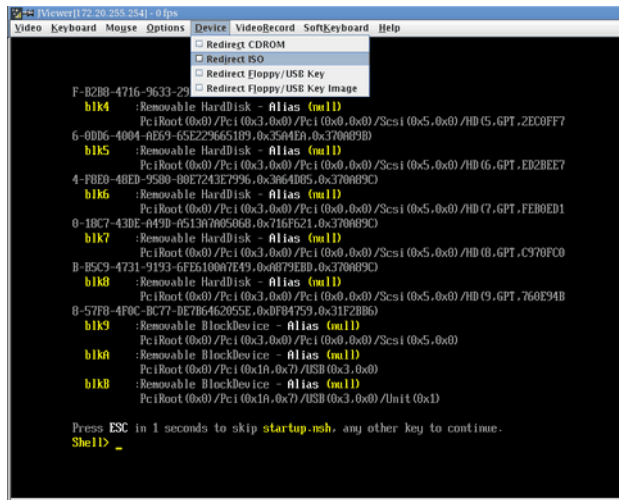
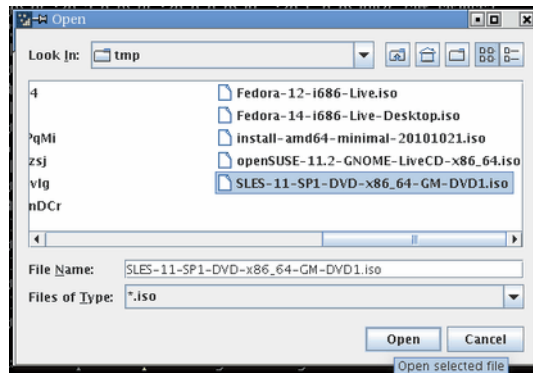
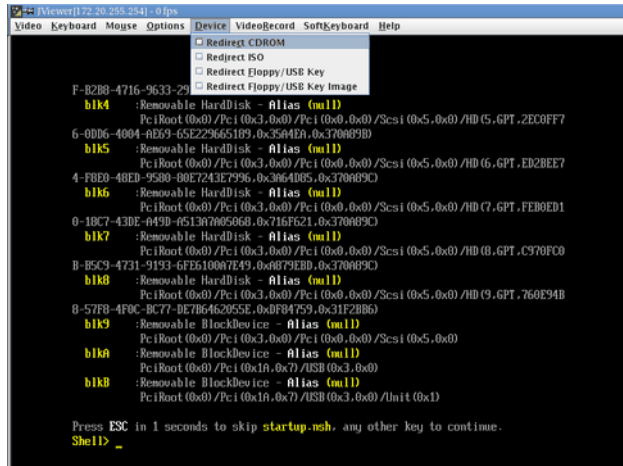

Figure 3-14 Redirect ISO Pull Down Menu
Figure 3-15 ISO Image File Name Screen
Figure 3-16 Redirect CRROM Pull Down Menu
- 2. To specify an ISO image file to redirect to the Altix UV operating system ISO image, select **Device-> Redirect ISO** on the JViewer client, as shown in Figure 3-14 on page 56. Then select the ISO image file to use, as shown in Figure 3-15 on page 56. If you are using physical media, to redirect a CD-ROM or DVD, place the CD in the drive of the machine where JViewer is running, then select **Device-> Redirect CDROM** on the JViewer client, as shown in Figure 3-16 on page 57.